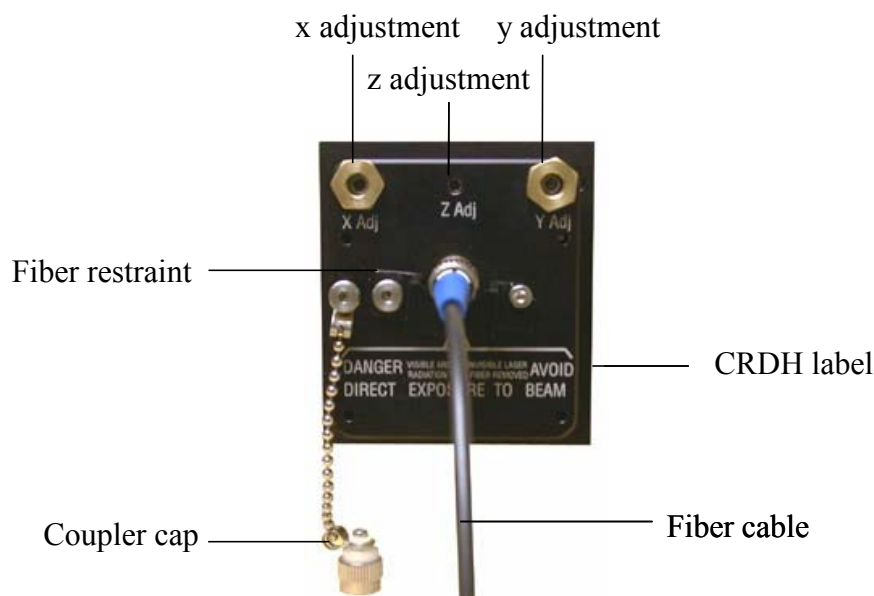

Figure D.2 KOSI fiber coupler assembly (view from the front)
1. Three setscrews on the front of the injector translate the focused beam in the x, y, and z dimensions with respect to the optical fiber (see Figure D.2). To optimize the coupling of the laser to the fiber optic cable, use a 5/64" ball driver to first adjust the x and y setscrews separately for maximum laser power at the output of the fiber optic cable. These adjustments can be quite sensitive if a single-mode fiber is being used because the laser spot size is similar to the core diameter of the fiber optic cable. In most cases, this adjustment should be all that is needed to regain laser power intensity. If the power intensity is now near maximum, skip steps 2 and 3.